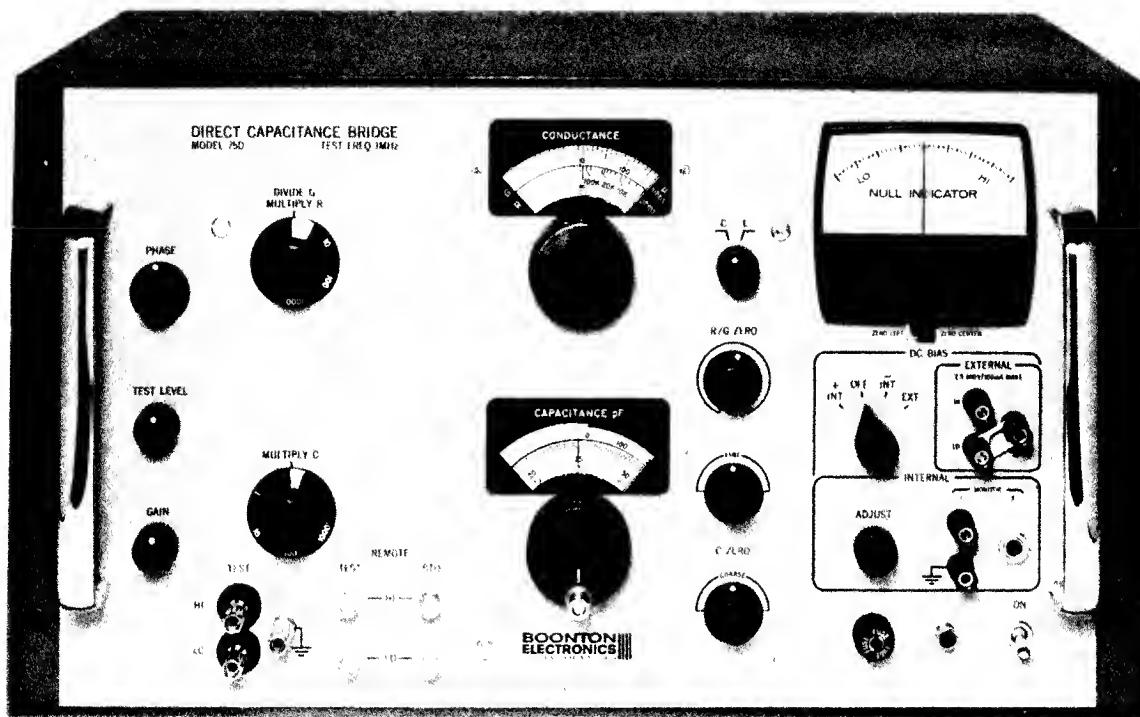

Figure 1. Direct Capacitance Bridge, Model 75D, (1 MHz)
**1.1 GENERAL.** The Direct Capacitance Bridge, Model 75D, (1 MHz) is a self-contained test instrument ( Figure 1 ) designed for use as a precision laboratory bridge to measure values of capacitors, inductors, and semiconductor devices, or to perform single-limit sorting tests of capacitive or inductive specimens.